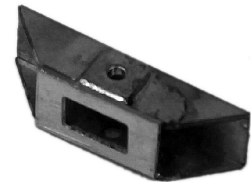

Fig 5
Fold up the two buffer/couplings (item 4) as shown in fig 5 and solder or glue the top joint and top reinforcing plate.